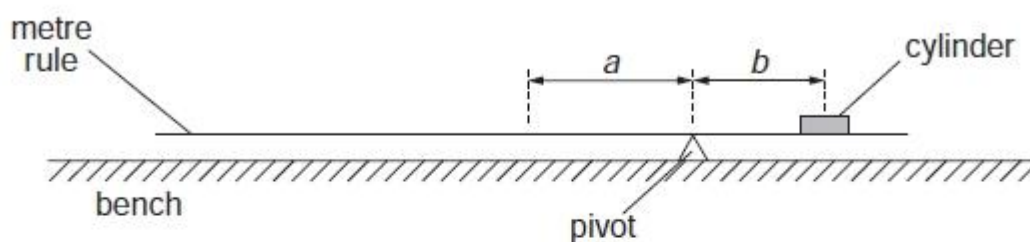

Fig. 1.1
- 1 An IGCSE student is determining the density of a solid metal cylinder using a balancing method. Fig. 1.1. shows the apparatus.